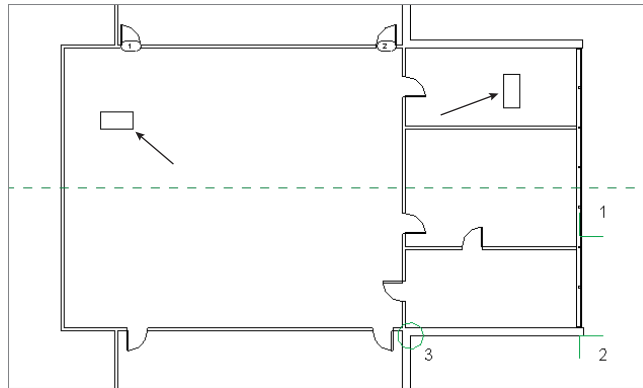

FIGURE 1.32 Place two desks in the layout as shown here.
4. In the floor plan, place one desk in the main central space. Press the spacebar once to rotate the desk, and place another desk in one of the spaces in the east wing, as shown in Figure 1.32.